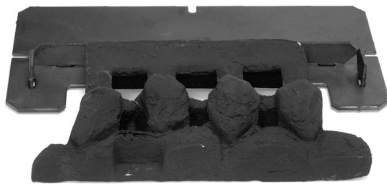

Fig 3a
Step 1 Place the base matrix on the matrix plate centrally between the end tabs of the location bar. (Fig 3a)